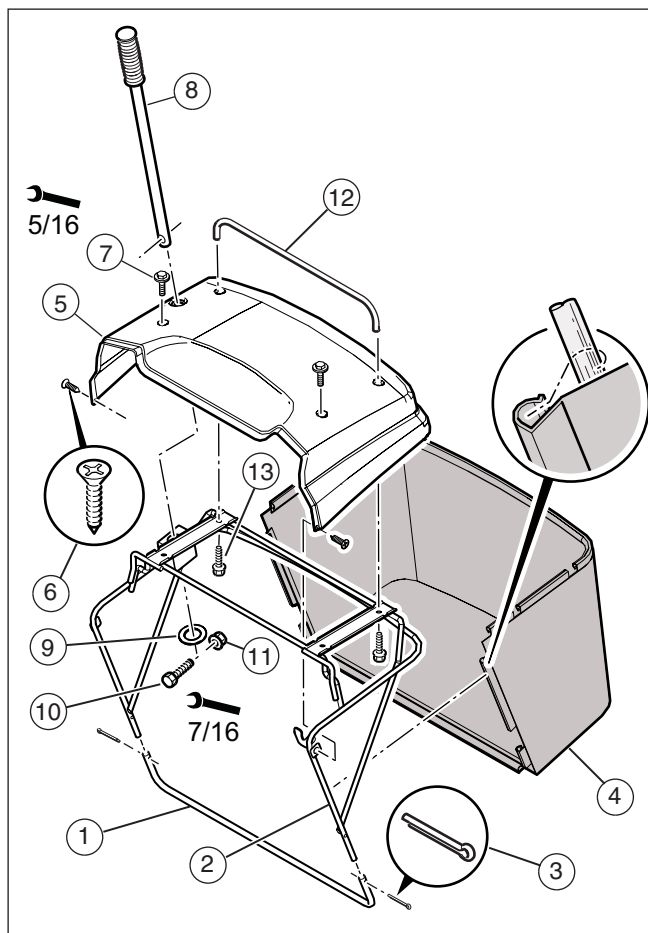

Figure 4
1. Slide the bottom tube (1) onto the bagger frame (2) (see **Figure 4**).
3. Install the cotter pins (3) into holes and bend the ends to secure to the frame.
4. Slide the frame assembly onto the grass bag (4).
6. Align the bagger cover (5) to holes in frame.
7. Use screws (6) and (7) to assemble the side and top of the cover to the bagger frame.
8. Assemble the bagger handle (8) thru hole in cover and frame.
9. Secure the bagger handle with washer (9), screw (10), and nut (11).
10. Install rear bagger handle (12) to cover using two screws (13).